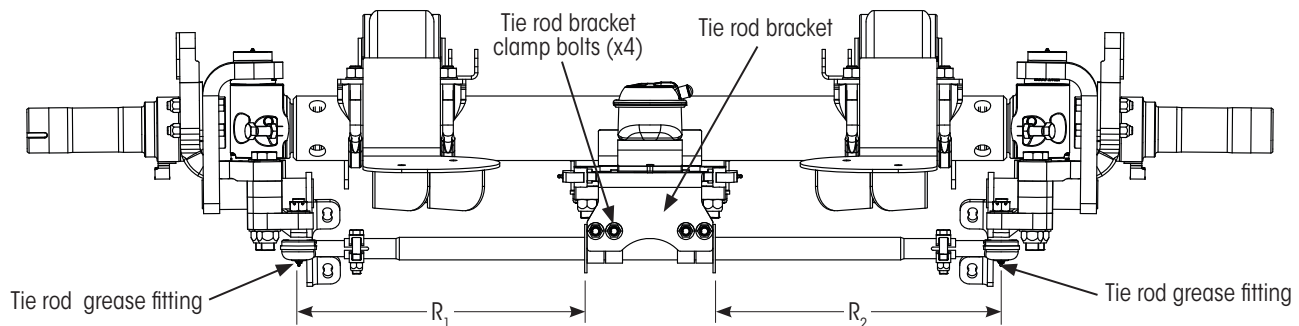
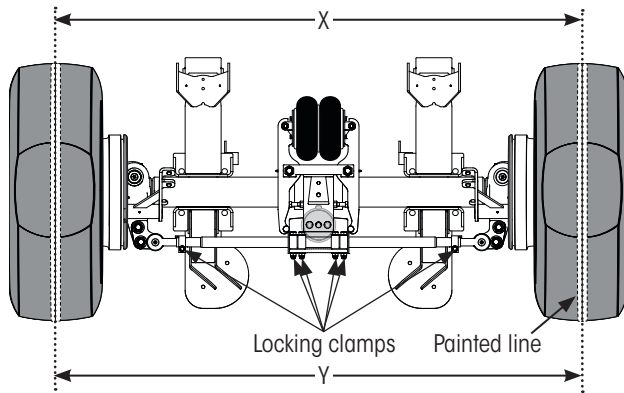

Figure 30: Tie rod end clamp orientation
Figure 31: Toe Measurements (bottom view)
- D. **Measure** to ensure, in Figure 30,  $R_1 = R_2 \pm 0.09$  inch (2.3 mm).
3. While rotating wheel, **paint** a line around the center of the tire tread, full circle (Figure 31).
10. **Loosen** all tie rod locking clamps Figure 31. Skip this step if already loose.
4. **Verify**  $R1 = R2 \pm 0.09$  inches ( $\pm 2.3$  mm) (FIGURE 31: TOE MEASUREMENTS (BOTTOM VIEW) on page 23). **Tighten** tie rod bracket clamp bolts (Figure 30) to  $95 \pm 5$  ft. lbs. ( $130 \pm 5$  Nm) of torque.